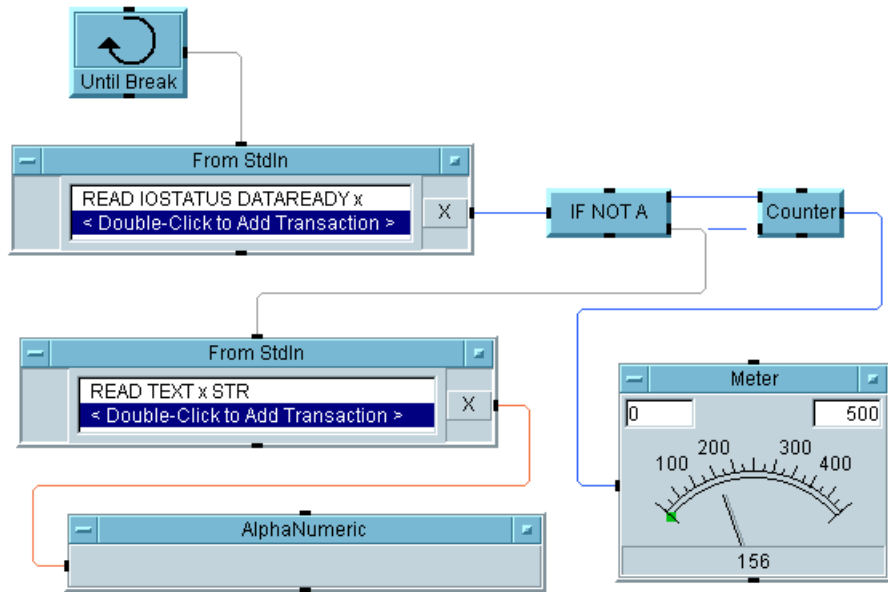

**Figure 4-10. Using `READ IOSTATUS DATAREADY` for a Non-Blocking Read**
Figure 4-10 shows a program where `READ IOSTATUS DATAREADY x` is used to detect data on the StdIn pipe.
The program in Figure 4-10 shows the use of a `READ IOSTATUS DATAREADY` transaction in `From StdIn`. The transaction returns a zero (0) if no data is present on the `stdin` pipe. If data is present, a one (1) is returned. The `If/Then/Else` is used to test the returned value of the `READ IOSTATUS DATAREADY` transaction. If the result is 1, the second `From StdIn` is allowed to execute, reading the data typed into the VEE start-up terminal window.